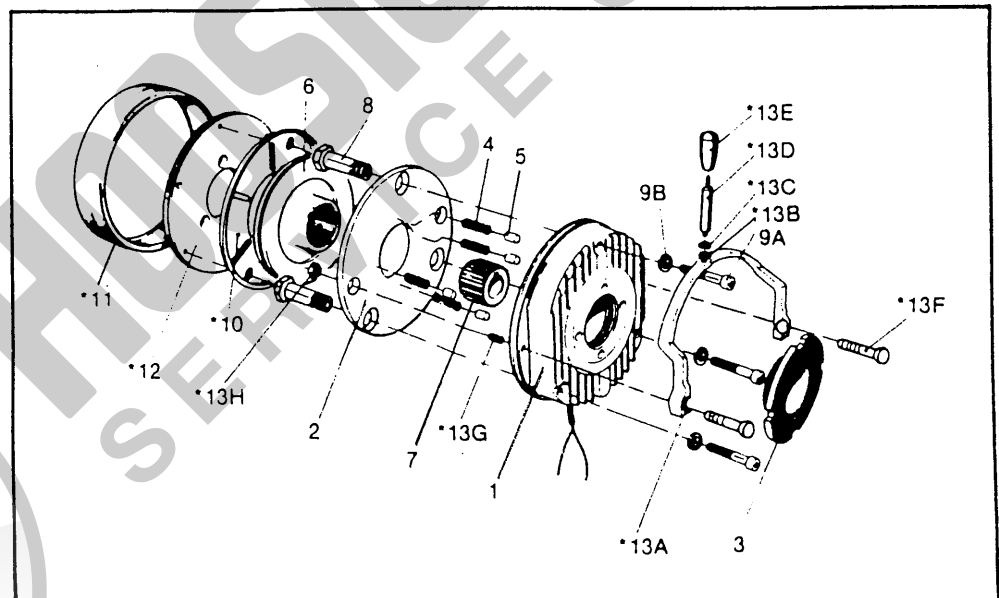

FIGURE 2
A. MANUAL RELEASE HANDLE (Position 13, Figure 2)
B. SEAL (Position 11, Figure 2)
C. MOUNTING FLANGE (Position 12, Figure 2) OR FRICTION PLATE (Position 10, Figure 2)
4. Assemble all hand release components as shown in Figure 2. Do not tighten nuts (13H) yet.
5. Place the mounting bolts (9A) and washers (9B) in the holes of the stator assembly (1).
When ordering parts refer to the exploded view in Figure 2 for the part description.